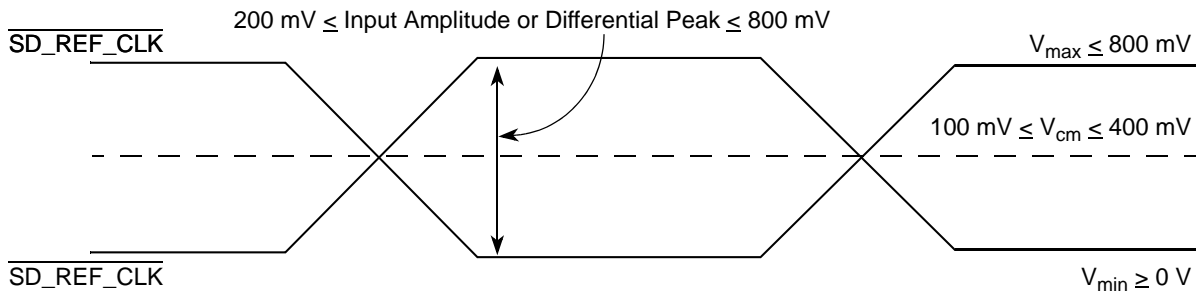

Figure 40. Differential Reference Clock Input DC Requirements (External DC-Coupled)
- For external DC-coupled connection, as described in Section 16.2.1, “SerDes Reference Clock Receiver Characteristics,” the maximum average current requirements sets the requirement for average voltage (common mode voltage) to be between 100 and 400 mV. Figure 40 shows the SerDes reference clock input requirement for DC-coupled connection scheme.